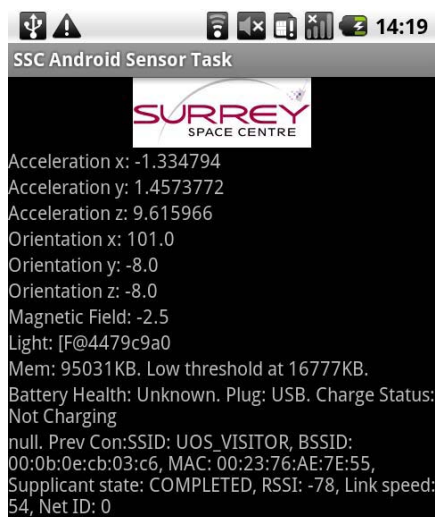

Figure 5.
To control the high performance computer (HPC) and smart-phone using I2C, an interface board is used to decode and command these payloads. The smart-phone is modified only at the power switch and uses a custom micro-USB connector which is soldered to the HPC. An additional C328A imager with lens is used to capture the phone screen and operations should further links fail. The smart-phone operates the Android 2.3 operating system (OS) which is primarily based on a modified Linux 2.6 kernel. The HPC also operates Linux 2.6 and can be connected via telnet and IP networking applications on both platforms. Other “apps” will include taking images/video footage, lossless compression algorithms, and operating the telemetry logging app (shown in Figure 5).